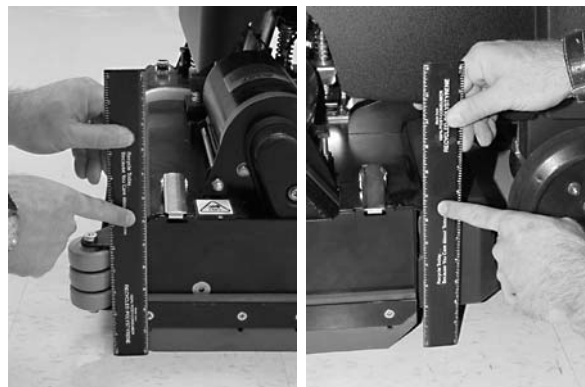

FIG. 22
3. Measure the distance from top edge of scrub head to floor at front and rear. The dimension at front of scrub head should be 0.25 in / 6.35 mm lower than the rear (Figure 22).